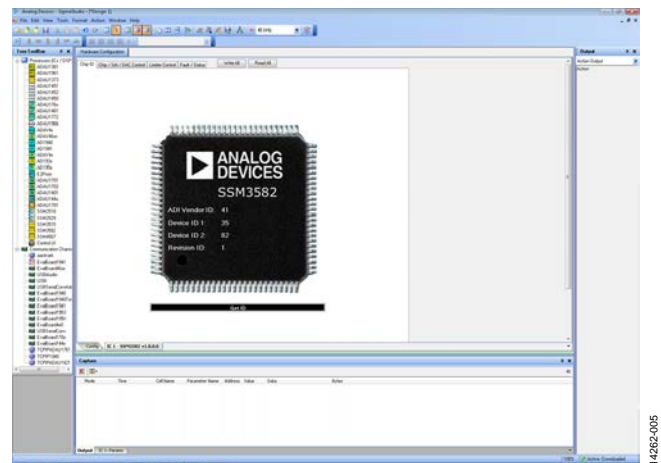

Figure 5. SSM3582 Device Setup
13. Click the **IC-SSM3582** tab. When clicking the **GetID** button, the 3582 with die revision numbers appears in the **Capture** window (see Figure 5).